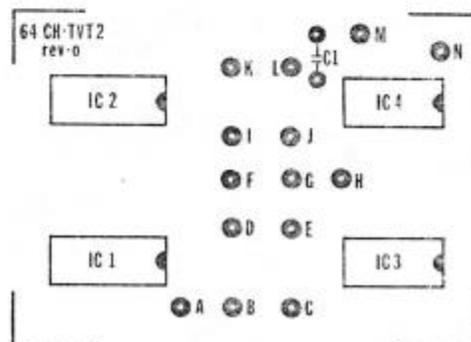

FIGURE 4
Modification of the original memory is not required if you do not need two pages of I/O. If you would like to have two page capabilities two methods are available. You can use the 2 K memory board shown in Figure 4 or you can piggyback the additional memory onto the original TVT-II memory board. If you are using the 2 K memory board the instructions are given below.
- () Omit this step if sockets are used Solder ICs Z1-Z6 and Z8-Z13, 2102 memories to the board using, care to avoid solder bridges. Refer to Figure 4 for proper positioning. Note: These are MOS devices and care should be taken to avoid static discharge to the pins. Use only a fully grounded soldering iron.